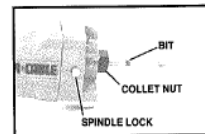

Fig. 2
2. Depress spindle lock, Fig. 2, and rotate collet nut clockwise by hand until lock engages hole in motor spindle.